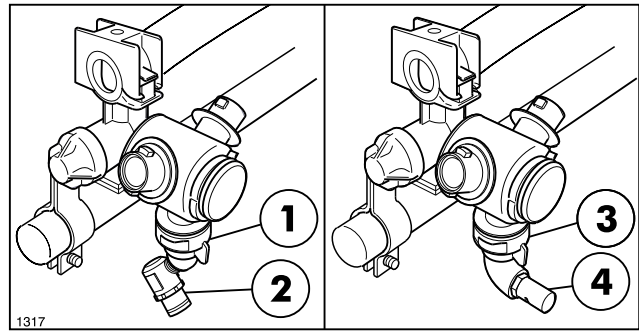

FIG. 3
NOTE: The Nozzle you are using dictates which Nozzle Cap you will use. Use the 45° Nozzle Cap with Raindrop Nozzles and the 90° Nozzle Cap with the Turbo TurfJet Nozzles. See FIG. 3.
- 8. Install nozzles into the Boom Caps. See FIG. 3.
- 9. Attach the (11) Nozzles to Turret Bodies by locking them into place.